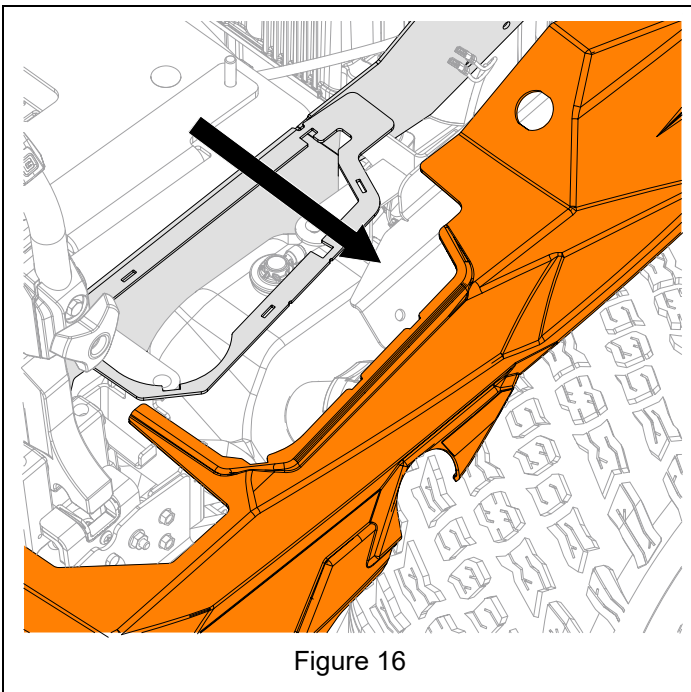

Figure 16
4. Remove fender. See Figure 16.